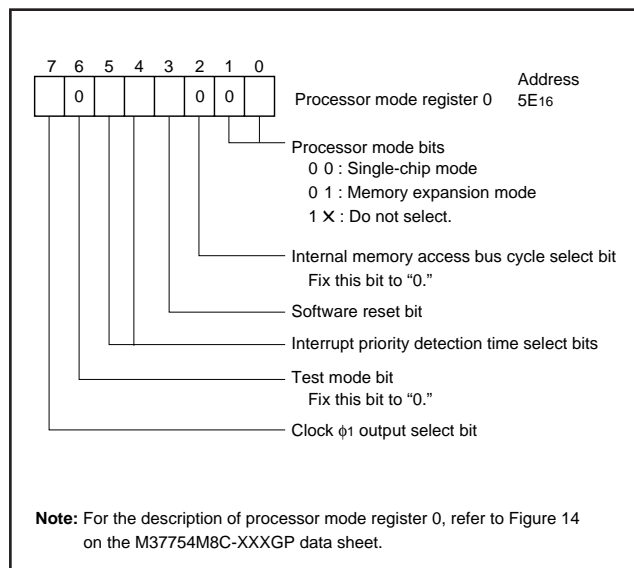

Fig. 23 Processor mode register 0 bit configuration in CPU reprogramming mode
Figure 23 shows the processor mode register 0 bit configuration in the CPU reprogramming mode. Set bit 1 to "0" (single-chip or memory expansion mode) in the CPU reprogramming mode. Set bit 2 (internal memory access bus cycle select bit) to "0."
- ① Apply 0 V to the CNVss/VPP pin for reset release.
- ② Set the processor mode register 0 (see Figure 23).
- ③ After CPU reprogramming mode control program is transferred to internal RAM, jump to this control program on RAM. (The following operations are controlled by this control program).
- ④ Set "1" (8-bit length) to data length select flag m.
- ⑤ Set "1" to the CPU reprogramming mode select bit.
- ⑥ Apply VPPH to the CNVss/VPP pin.
- ⑦ Read the CPU reprogramming mode monitor flag to confirm whether the CPU reprogramming mode is valid.
- ⑧ The operation of the flash memory is executed by software-command-writing to the flash command register.